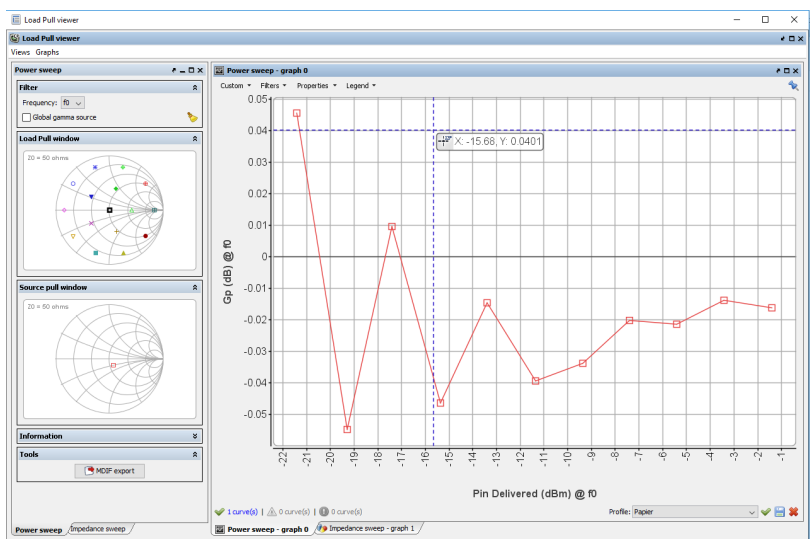

Fig.2
When calibration is done correctly and the whole setup is stable, the measured operating power gain (GP) for the DUT (i.e the THRU) should ideally be 0dB and typically ± 0.05 dB for an optimum measurement system at 50 Ohms, See fig.2.